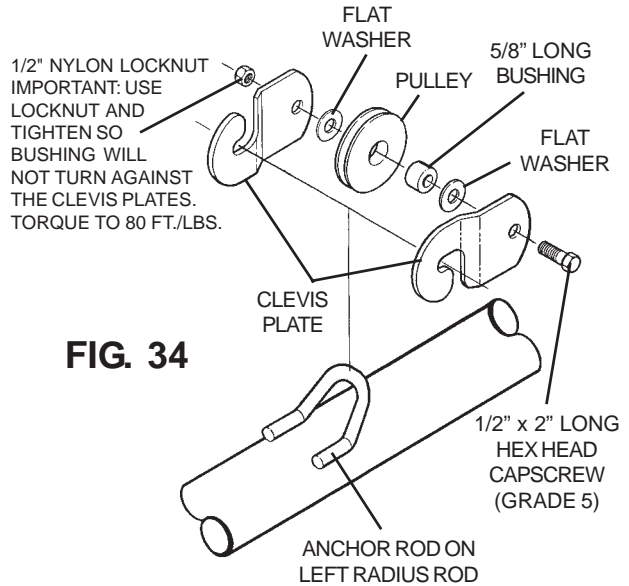

FIG. 34
32. Hook clevis plates over anchor rod on left radius rod. Then assemble bushing, flat washers and cable pulley between the clevis plates using 1/2" x 2" long hex head capscrew (grade 5) and nylon locknut. After the locknut is tightened, check to see that the clevis plates are captured on the anchor rod and cannot come off. See Fig. 34.